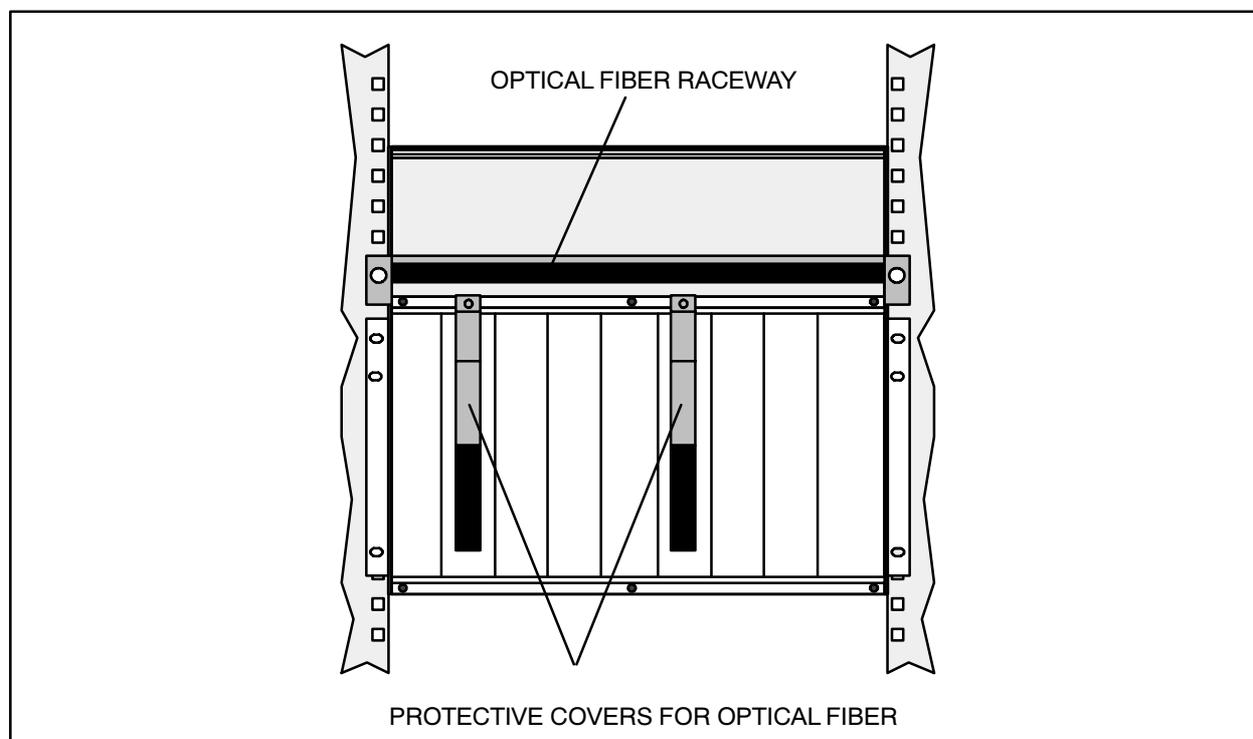

Fig. CK-15 Example of protective cover installation
1. Locate the position in which the plexiglass cover has to be installed, by consulting Fig. CK-15 below.